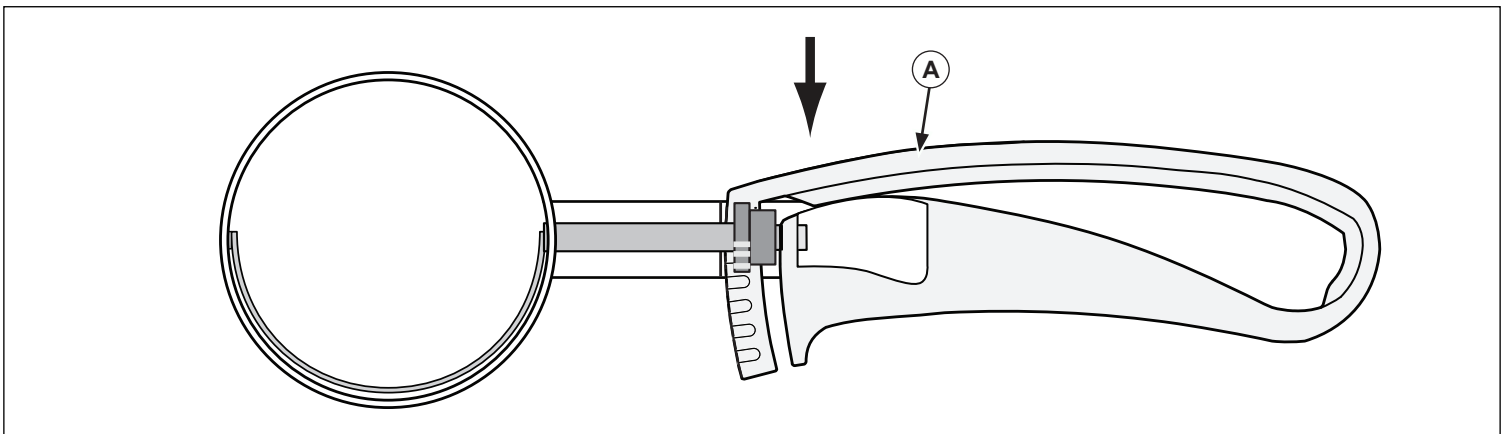

Figure 2. Handle in the Fully Compressed or In Position.
2. Squeeze and hold the handle (A) in the fully compressed position. See Figure 2.
11. Slowly release the handle (A) to return to the normal ready position. See Figure 2.